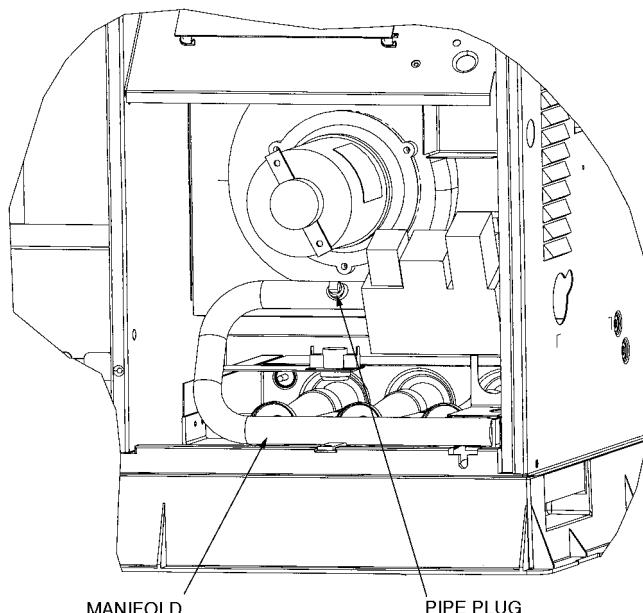

Fig. 13 — Burner Assembly
2. Remove pipe plug on manifold (see Fig. 13) then connect manometer at this point. Turn on gas to unit.
2. Remove pipe plug on manifold (see Fig. 13), then connect manometer at this point.